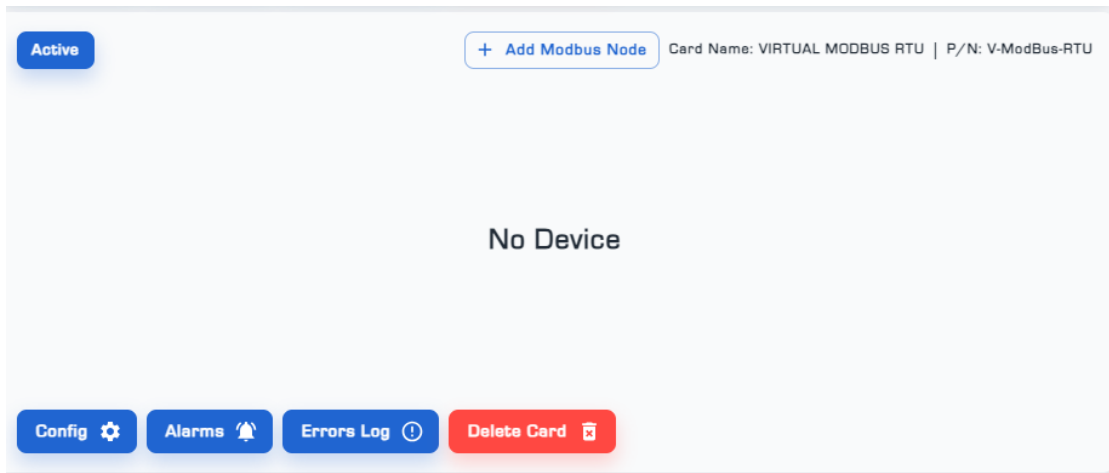

Figure 44: Display of the virtual Modbus RTU card on the 'Cards List' page
Doing so will display the details of the virtual ModBus RTU card on the 'Cards List' page (Figure 44).
- (1) In Figure 44, click on the '+ Add Modbus Node' option.